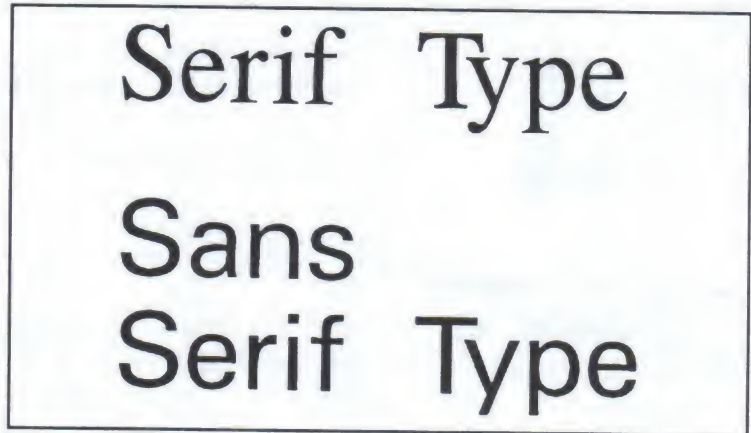

Figure 3-1. Serif and Sans Serif Typefaces
**Typefaces** are collections of characters and symbols that have a unique design, or “look”. Broadly, typefaces are designed with serifs or without serifs (also called *sans serif*). Figure 3-1 shows examples of serif and sans serif typefaces.